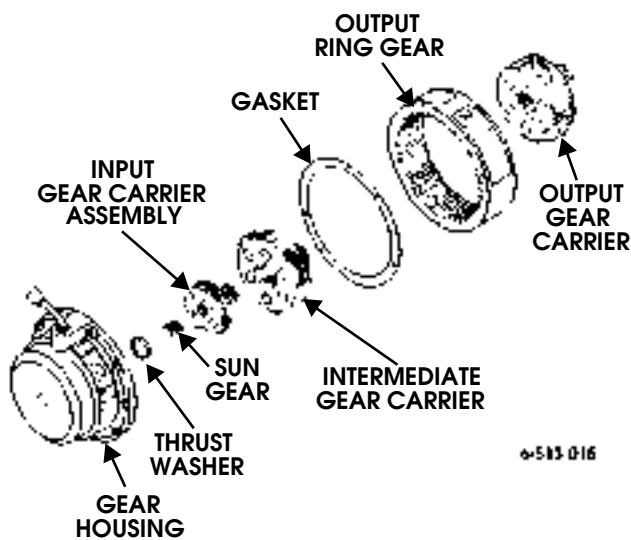

Figure 9-173: Gear Carriers
6. Apply aircraft grease to output gear carrier, intermediate gear carrier, and input gear carrier assembly (Figure 9-173).